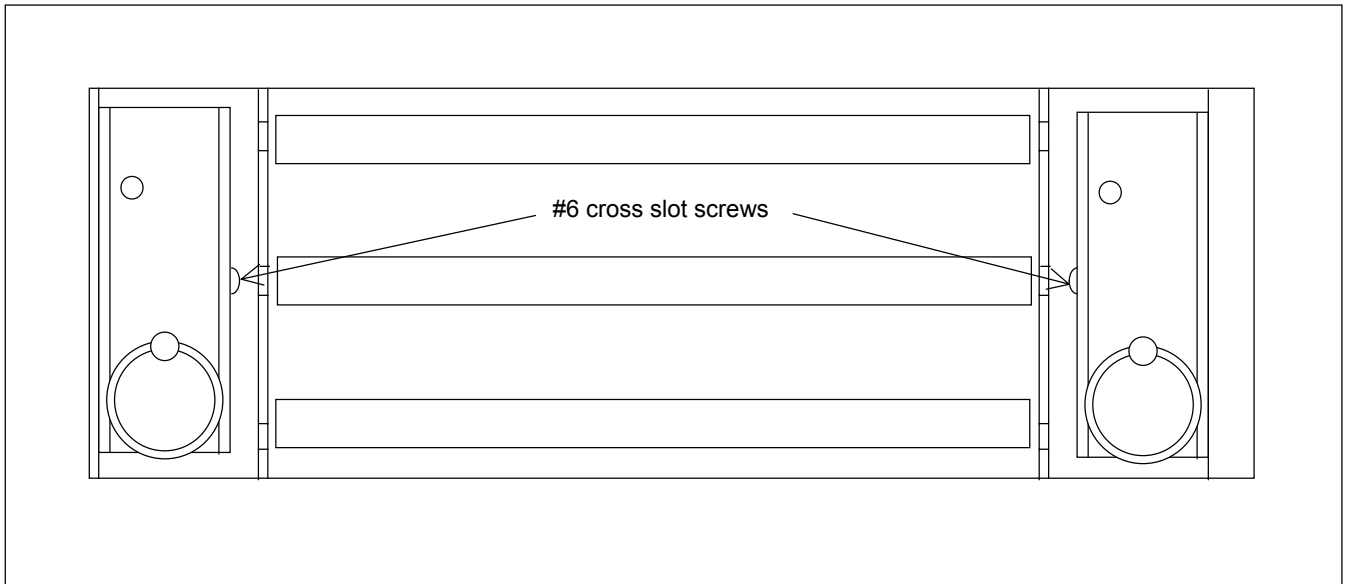

Figure 8-2. Front view of RFL 9745 with front cover folded over
The following paragraphs provide procedures to be used when removing and replacing RFL 9745 modules and I/O modules. Refer to Figure 8-2 for module locations.
4. Loosen the #6 cross slot screw as shown in Figure 8-2.
3. Tighten the #6 cross slot screw as shown in Figure 8-2.
11. Tighten the #6 cross slot screw on the Main Power Supply as shown in Figure 8-2.
12. Loosen the #6 cross slot screw on the Redundant Power Supply as shown in Figure 8-2.
19. Tighten the #6 cross slot screw on the Redundant Power Supply as shown in Figure 8-2.